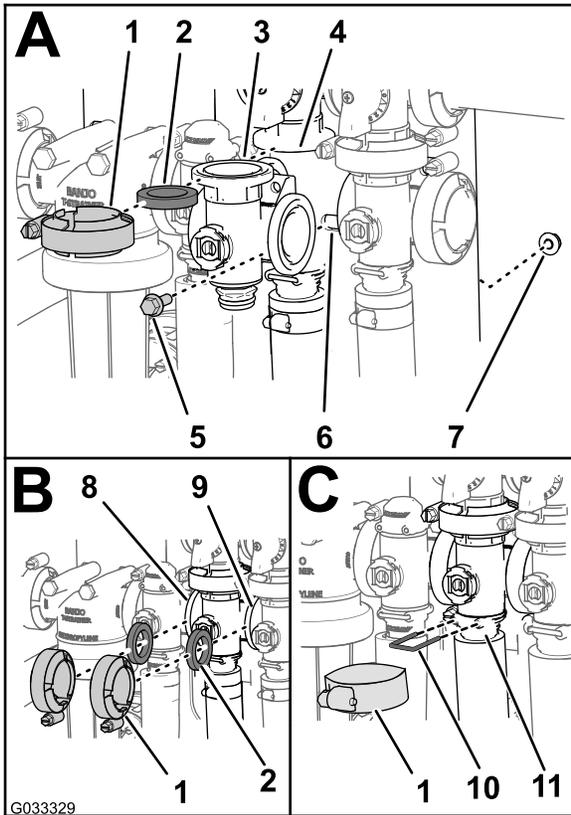

Figure 76
1. Align the flange of the agitation-valve manifold, 1 gasket, and the flange of the agitation-bypass valve (A of Figure 76).
2. Assemble the agitation-bypass valve, gasket, and agitation-valve manifold with a clamp tightened hand-tight (A of Figure 76).
3. Align a gasket between the flanges of the rate-control valve and the agitation-valve manifold (B of Figure 76).
4. Assemble the gasket and agitation-valve manifold with a clamp tightened hand-tight (B of Figure 76).
5. Align a gasket between the flanges of the agitation-valve manifold and the master-boom valve (B of Figure 76).
6. Assemble the agitation-valve manifold, gasket, and master-boom valve with a clamp tightened hand-tight (B of Figure 76).
7. Assemble the agitation-valve manifold and socket with a clamp tightened hand-tight (C of Figure 76).
8. Secure the end-cap fitting to the outlet fitting by inserting a retainer into the socket of the outlet fitting (C of Figure 76).